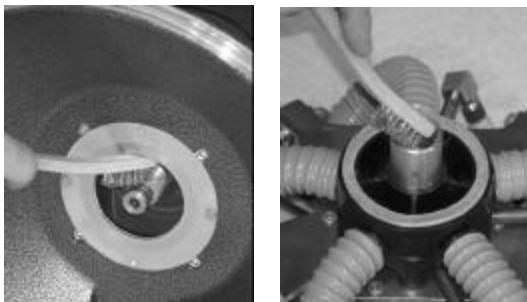

FIG. 16
6. Clean off any accumulated debris on the gearbox shaft and inside the threaded portion of the hub (Figure 16). An accumulation of debris around the